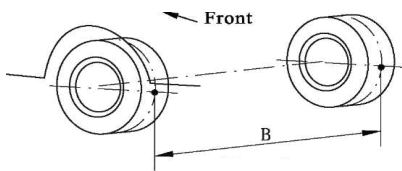

Figure 1
- 1)Straighten the front wheel of the vehicle, mark the front and rear center points of the tire, and measure the distance between the left and right tire marks" B". As shown in figure 1.